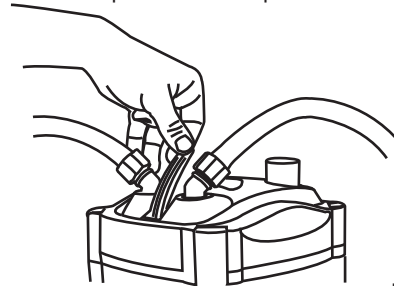

Fig 1
3. Lift the Locking Lever to turn the taps off. Remove the quick release tap connector. Fig 1